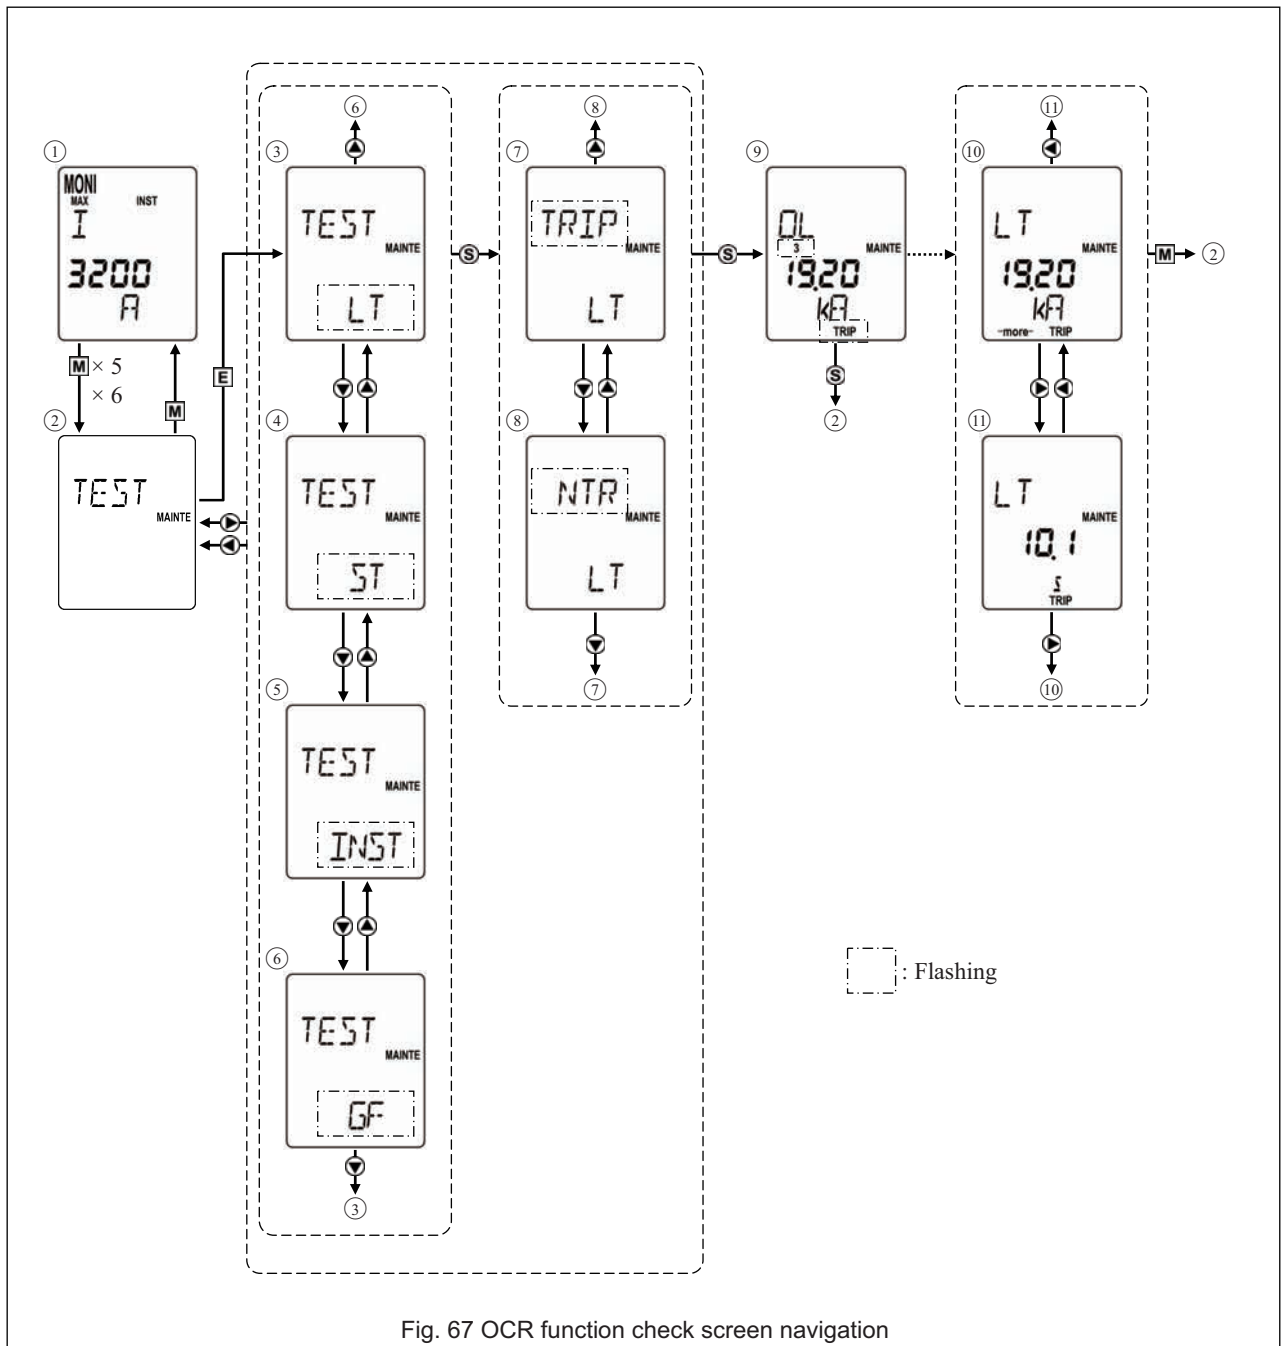

Fig. 67 OCR function check screen navigation
- 4) Follow the procedure described in Fig. 67 and Table 37 to check the OCR for normal operation. (In NTR mode, the ACB does not operate, a trip/alarm event is not saved in the log and operation indication contact output is not provided).